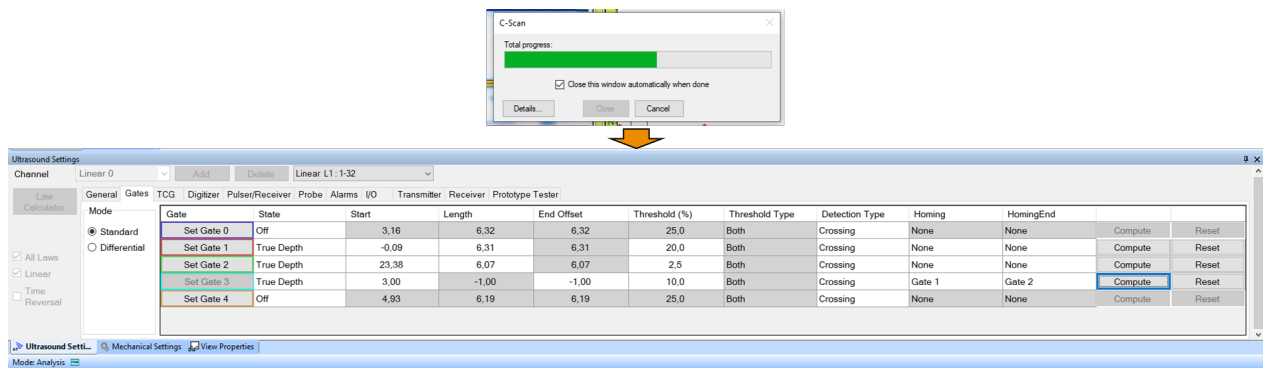

Figure 22: Full Homing gate parameters are applied once the progress bar gets completed
- Once the user modifies a parameter of the Full Homing Gate, its font switches to the **bold format** which means that the entered values are not yet applied. As soon as the Compute button is pressed for the Full Homing Gate, the entered values are applied and their font switches back to the normal format. Figure 22 shows the Gates grid once the entered gate parameters are computed and applied.